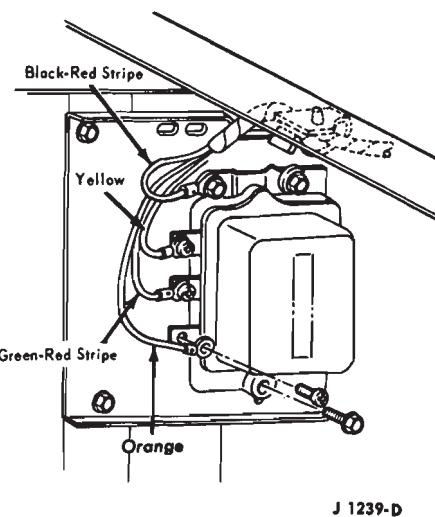

FIG. 4—Regulator Mounting
4. Position the regulator and install the mounting screws. Mount the black-red stripe ground wire lug under the mounting screw at the ground strap end of the regulator (Fig. 4).
5. Connect the remaining regulator wires (Fig. 4).